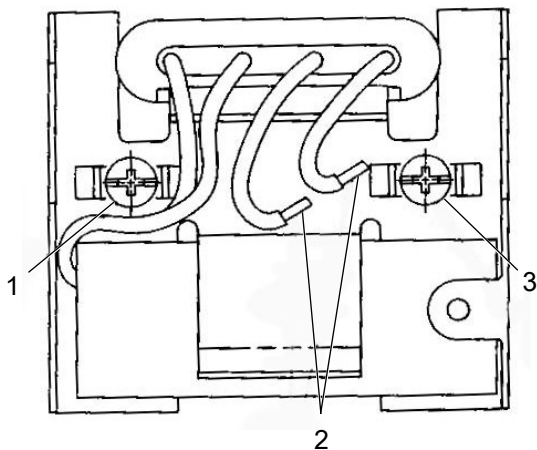

Figure 4: Conduit box wiring detail
4. Connect the ground wire to the inside of the conduit box with one of the green screws provided inside the box. See Figure 4 on page 4.